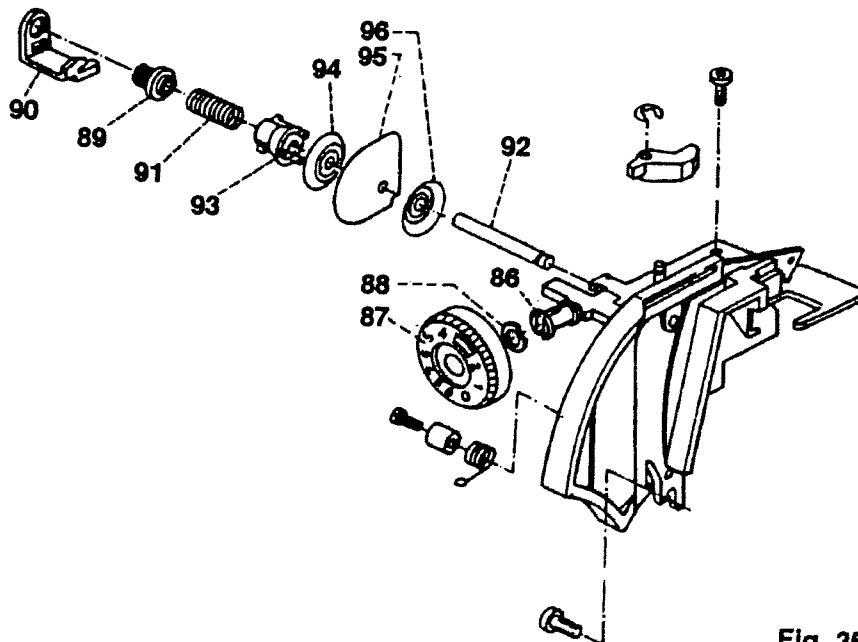

Fig. 35
- Press the two plastic noses 86 together and remove tension dial 87 (fig. 35).